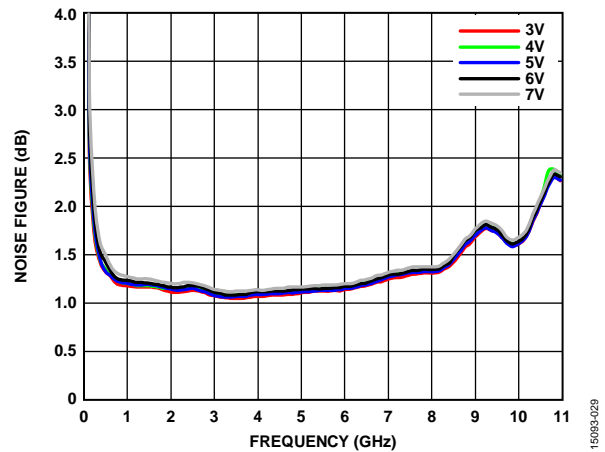
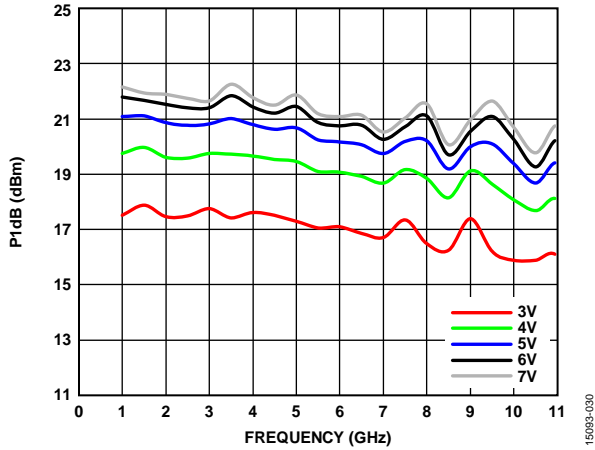
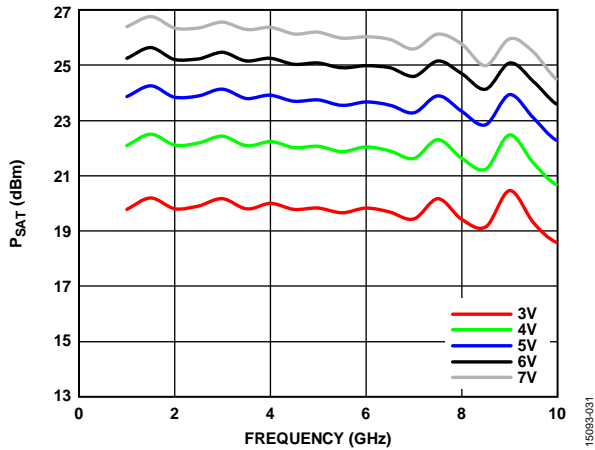

Figure 29. Noise Figure vs. Frequency for Various Supply Voltages, $I_{DQ} = 65 mA$
Figure 30. P1dB vs. Frequency for Various Supply Voltages, $I_{DQ} = 65 \text{ mA}$
Figure 31. P_{SAT} vs. Frequency for Various Supply Voltages, $I_{DQ} = 65 \text{ mA}$
Figure 29, Figure 30, and Figure 31 show that increasing the voltage from 3 V to 7 V typically increases P_{1dB} and P_{SAT} at the expense of power consumption with minor degradation on noise figure (NF).